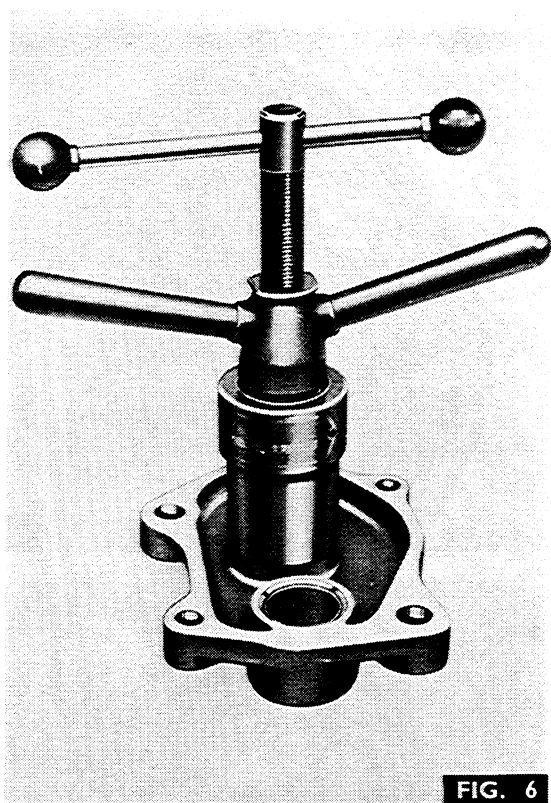

FIG. 6
9. Unscrew the main nut (23) off the column and collect 28 steel balls (22).
10. Release the tabwasher (2), then remove the locknut (1), tabwasher, adjustable race (4) and seal (5) from the column (9).
- 11a. Withdraw the column (9) out of the tube (10), then remove the ball race (6), ball ring (7) and seal (8) from the column.
- 11b. Remove the 12 steel balls (3) from the tube (10).
- 12a. Carefully lift the outer ball race (39) off the tube (10) and collect the 12 steel balls (3).
- 12b. Withdraw the column (9) out of the tube (10), then remove the ball race (6), ball ring (7) and seal (8) from the column.
- 12c. Remove the circlip (38), felt seal (37) and the retainer (35) from the tube (10).
13. Remove the two dished washers (19) and the two oil seals (17) from the steering box and the cover plate.
14. Fig. 6. Using special tool MF 263 and adapter MF 263-1, as shown, cut a thread into a bush (18) by turning the outer handle, then pull out the bush by rotating the inner handle.